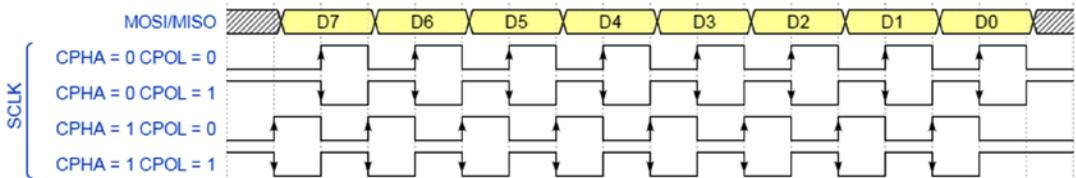
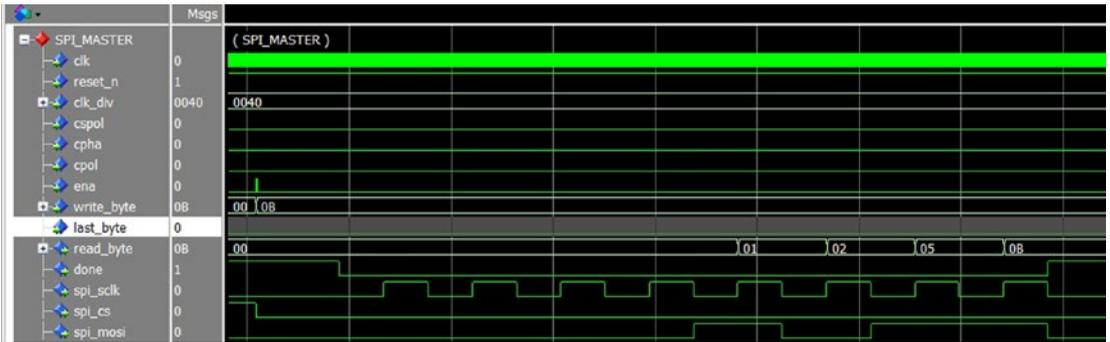

Figure 14-4. SPI clock timing setting
Figure 14-7. SPI master sclk and mosi when $cpha = 0$ and $cpol = 0$
2. User can control the master clock polarity (CPOL) and phase (CPHA) (Figure 14-4 shows the CPOL and CPHA).
The chip select will be active low when chip select polarity (CSPOL) is LOW. The functions are shown in Figure 14-4. Figures 14-7, 14-8, 14-9, and 14-10 are the actual outputs from the SPI master with different combinations of CPHA and CPOL.
Each SPI masters (Figure 14-7, 14-8, 14-9 & 14-10) are send out one byte with value equal to 0x0b serially on the spi_mosi with the clk_div equal to 63 (Hex 0x0040)